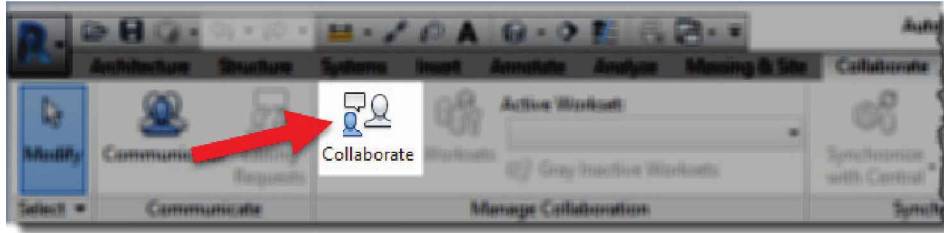

FIGURE 16-4.2 Collaborate tool on Ribbon
2. **USER A:** Click the **Collaborate** tool on the Ribbon (Figure 16-4.2).